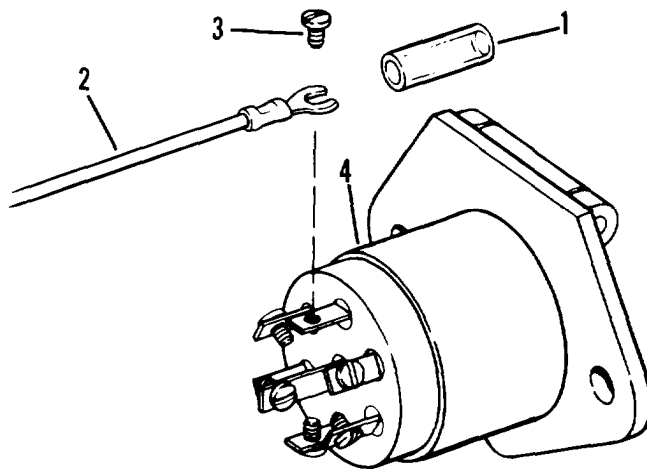

Figure 4-14. 12 volt receptacle
- (1) Slide clear plastic sleeves (1, figure 4-14) back on wires (2). Remove screws (3) from back of receptacle (4). Tag and disconnect wires (2).
- (2) Replace receptacle assembly (4).
- (3) Install wires (2) on new 12 volt receptacle (4). Secure wires with screws (3).
- (4) Slide plastic sleeves (1) over wires (2) to protect connections.